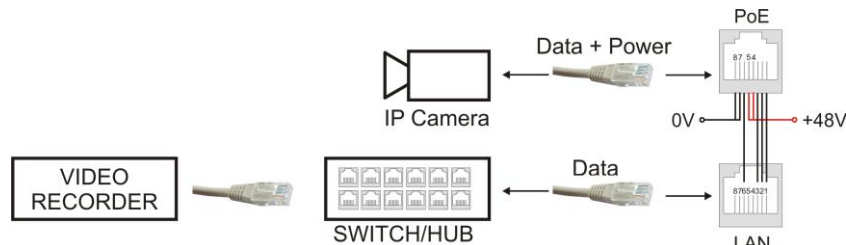

Fig. 4. Connection of network devices to the LAN and POE terminals.
4. Connect the network cables (Ethernet) to the PoE, LAN module: supply voltage is present only at the PoE sockets and the devices should be connected to them. Connect the Ethernet signal from the network switch to LAN connectors. Pin assignment of the LAN and POE sockets is shown in the Figure 4: